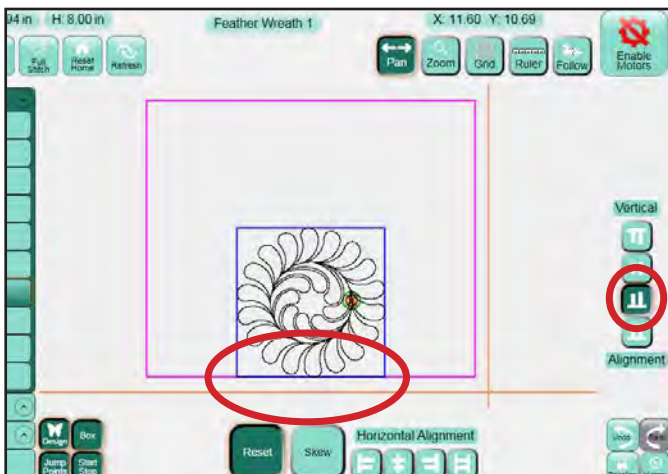

Figure 5.69
**Align Bottom:** (*Figure 5.69*) The bottom of the design's bounding box aligns with the lowest point of the **Area**.